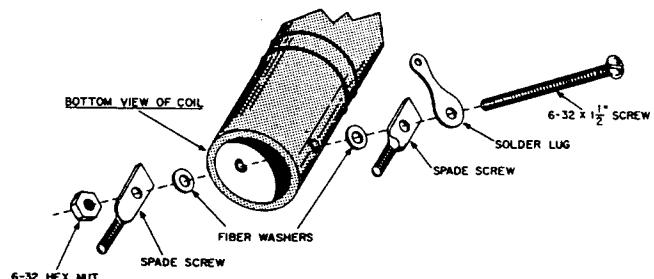

FIGURE 5. MOUNTING L-2 AND L-6
- Prepare L-6, the 6-terminal coil, for installation by attaching the spade screws as shown in Figure 5. Note that the flat side of the spade screws must be against the coil. On a 6-32x $\frac{1}{2}$ " screw put a solder lug, a spade screw, and a fiber washer. Push the screw through the holes in the coil from the side opposite the terminals. On the threaded end
- Attach spade screws to L-2 in the same way they were fastened to L-6 (see Figure 5) except that two solder lugs are used, one on each side.